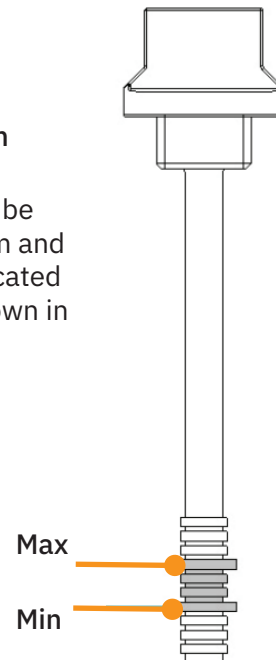

Figure 3
3. Gradually fill the buffer with oil until the oil level is visible between the minimum and maximum levels on the dipstick ( indicated on figure 3)
6. Remove dipstick and inspect level. The oil level needs to be between the minimum and maximum marks indicated on the dipstick as shown in figure 3.
The oil level needs to be between the Minimum and Maximum marks indicated on the dipstick as shown in figure 3
4. Remove dipstick and inspect level. The oil level needs to be between the minimum and maximum marks indicated on the dipstick as shown in figure 3.